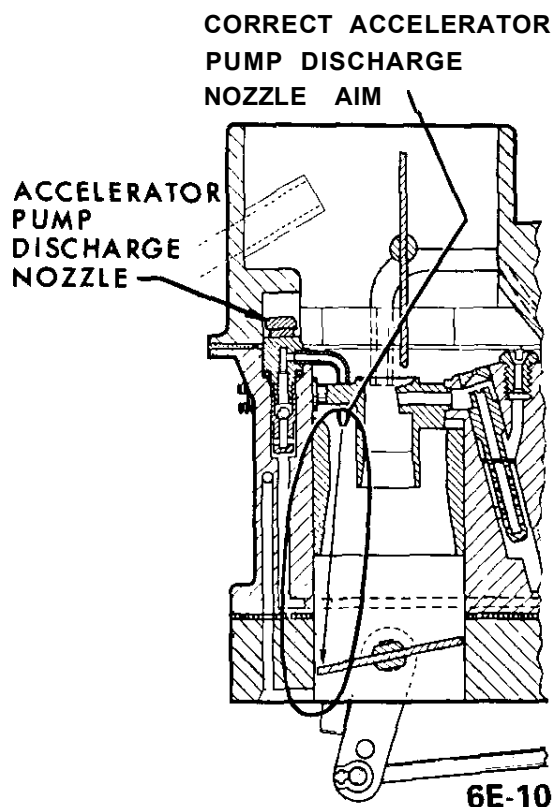

Figure 6E-10 Pump Shot Aim
4. Accelerator pump should discharge fuel between throttle plate and venturi wall with engine off. If aim is not correct, use needlenose pliers to slightly bend nozzle so proper aim is achieved. See Figure 6E-10.